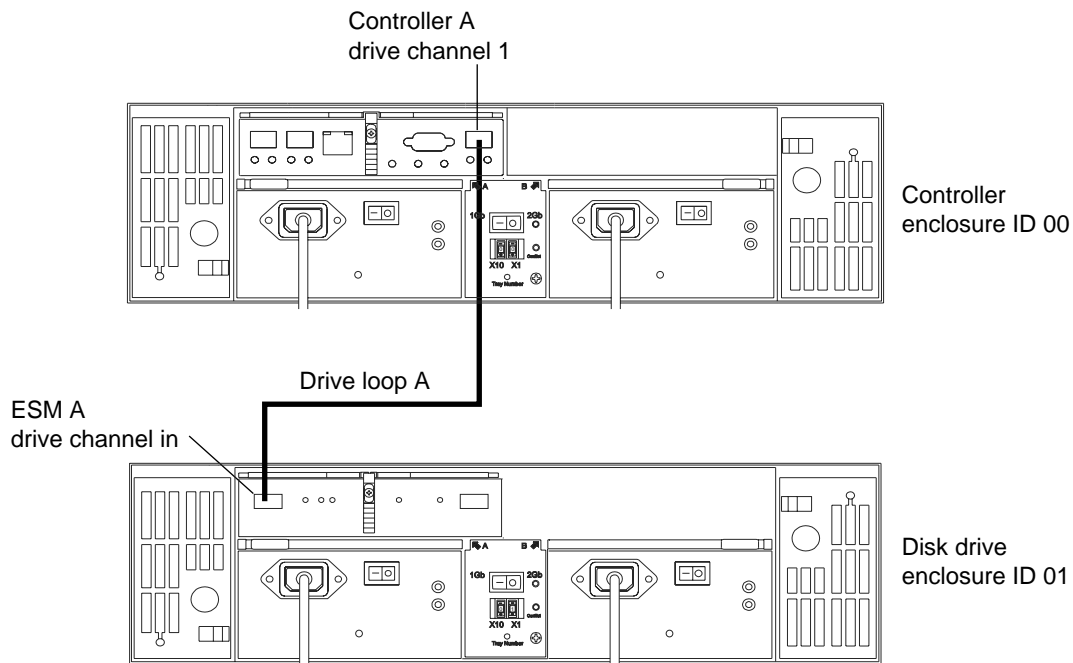

Figure 5-1 Single Controller With Single Connection Drive Cabling Example
1. Connect the drive loop in the first two enclosures (see Figure 5-1). Starting with the controller enclosure, connect an interface cable from the drive loop connector on the left RAID controller module to the **drive channel in** connector on the left environmental status module in the expansion enclosure.